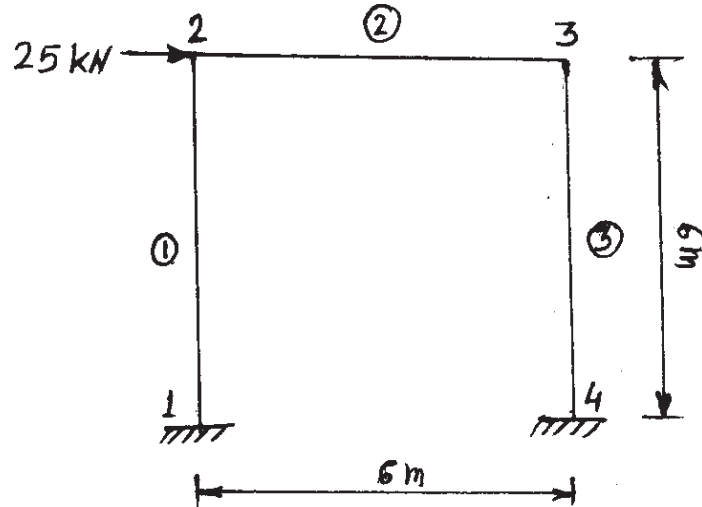

Fig. 2
- Q3) For a rigid frame as shown in fig.2, determine the nodal displacement components and rotations, the support reactions and forces in each element. Take $E = 200 \text{ Gpa}$, $I = 8.32 \times 10^{-5} \text{ m}^4$, $A = 6.45 \times 10^{-3} \text{ m}^2$ for all elements. [18]